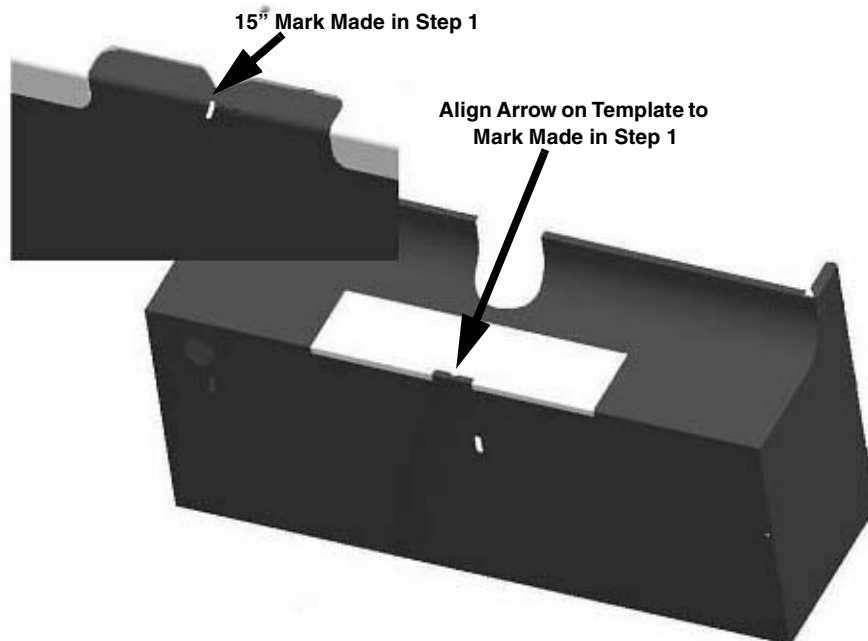

FIGURE 2
- Using the template supplied in the kit, align the template as shown making sure that the center arrow on the template is aligned with the center mark made in Step 1, see FIGURE 2.